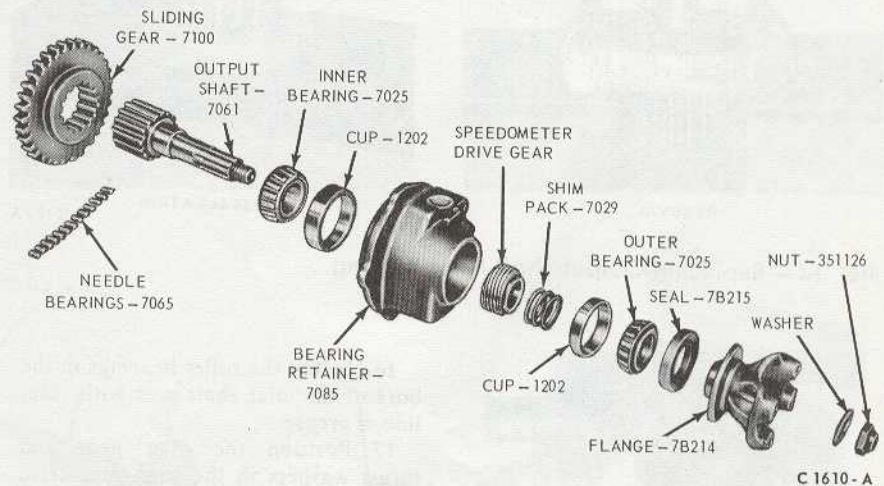

FIG. 12—Rear Drive Output Shaft—Disassembled
1. Remove the needle bearings from the bore of the shaft (Fig. 12).
4. Lift the speedometer drive gear and shims from the shaft (Fig. 12). Tie the shims together.
12. Place the bearing retainer and shaft in a vise. Install the output shaft flange and torque the retaining nut to specifications. Install a dial indicator on the flange end of the output shaft, and check the end play. The end play should be 0.003-0.005 inch. If not within these limits, adjust the shim pack (Fig. 12) between the speedometer drive gear and rear output shaft outer bearing.